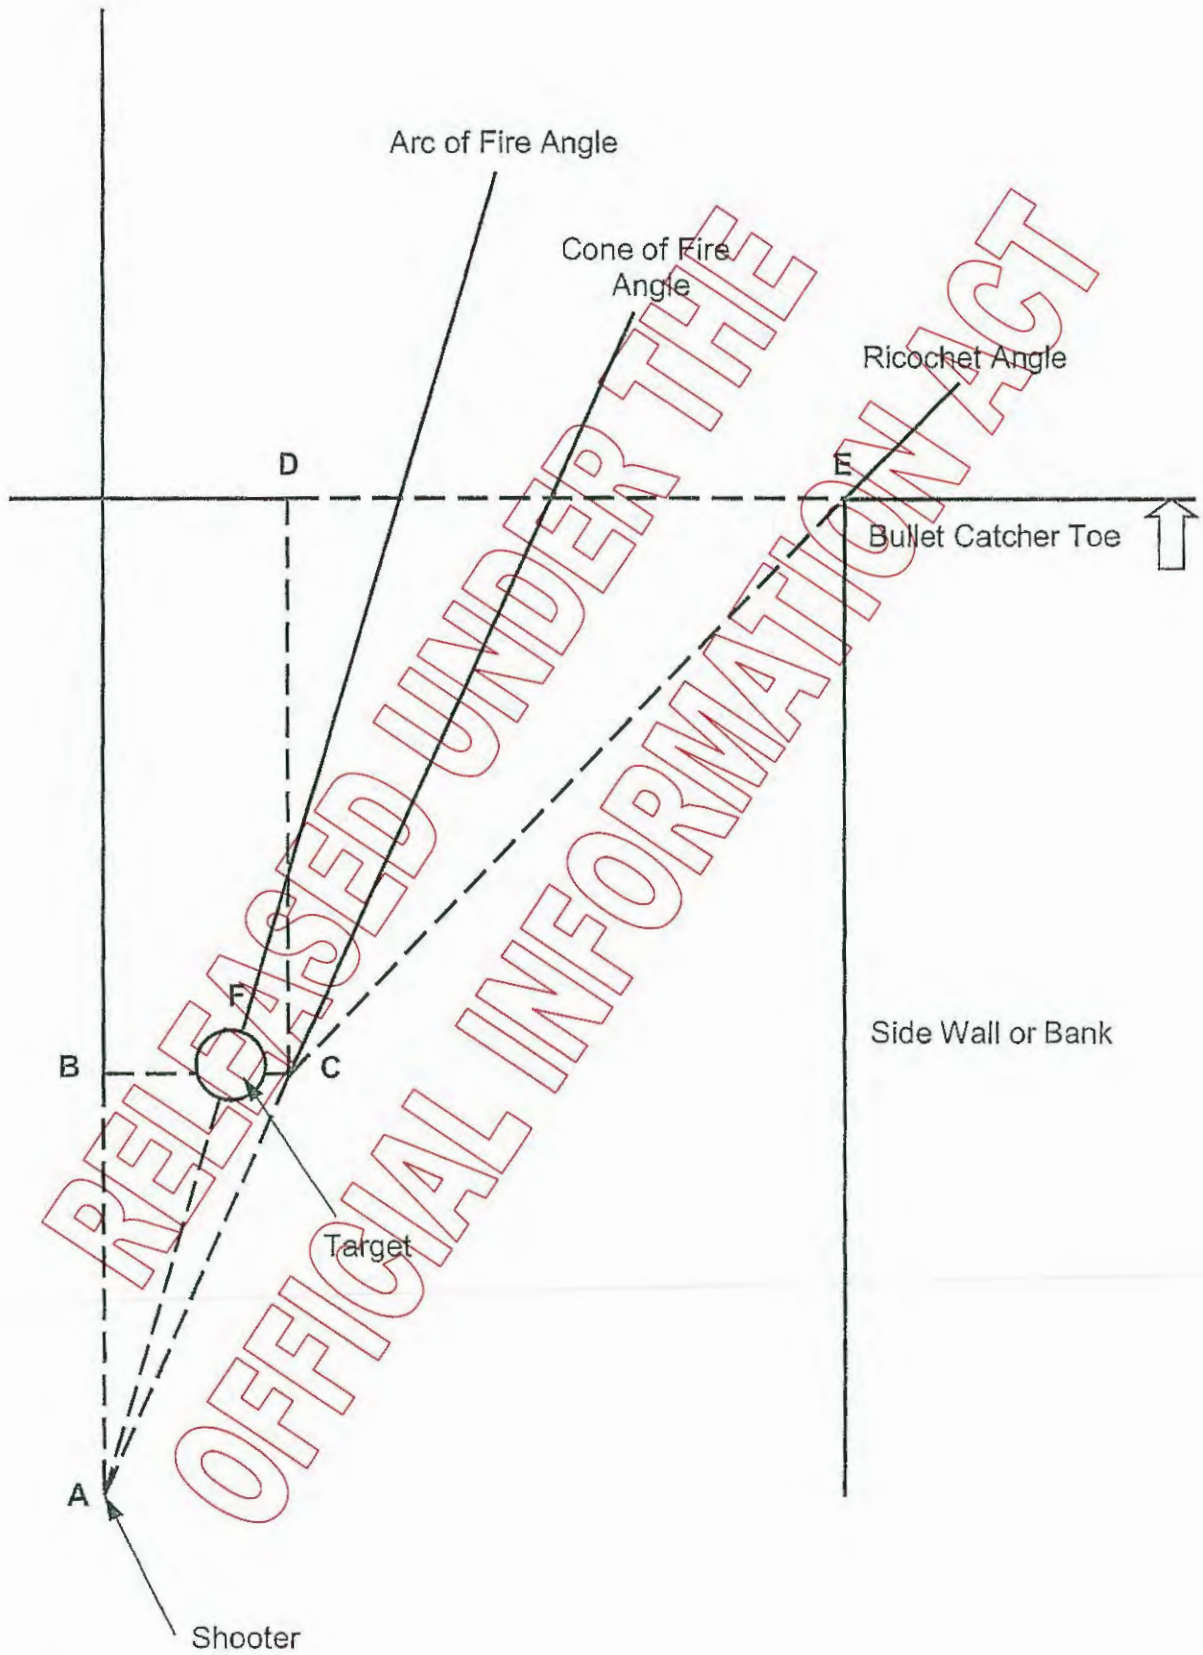

Figure 1 – Calculating Shooter and Target Locations
2. This annex explains the generic calculation steps for determining the left and right danger area angles and the associated shooter and target locations (see paragraph 4 and 5 below) and provides a diagrammatic representation of the method (see Figure 1 below).
3. The method is based on trigonometric ratios, right-angled triangles (see triangles ABC, CDE and ABF in Figure 1 below) and the following:
4. To determine the shooter's location, the length of line BC and line DE in Figure 1 below must be determined. The calculation steps for determining the shooter's location follow: